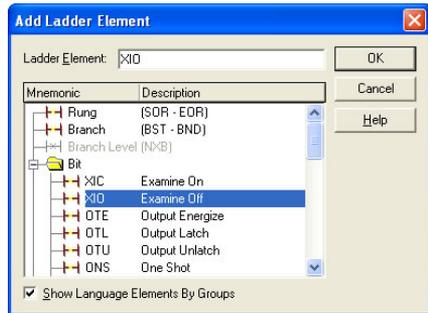

Figure 101: Adding an XIO Element
- c) Select the "XIO" element in the Bit folder. Refer to Figure 101.